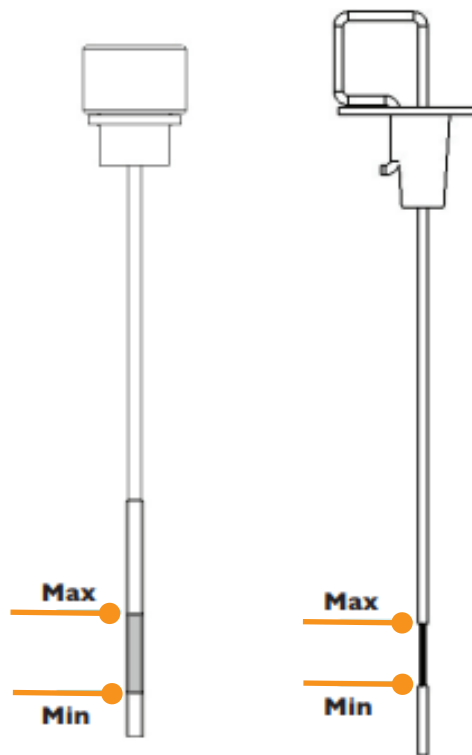

Figure 5
The oil level needs to be between the Minimum and Maximum marks indicated on the dipstick as shown in Figure 5 for LB16 - LB25 or Figure 6 for LB32 - LB40.
3. Gradually fill the buffer with oil until the oil level is visible between the minimum and maximum levels on the dipstick (indicated on Figure 5)